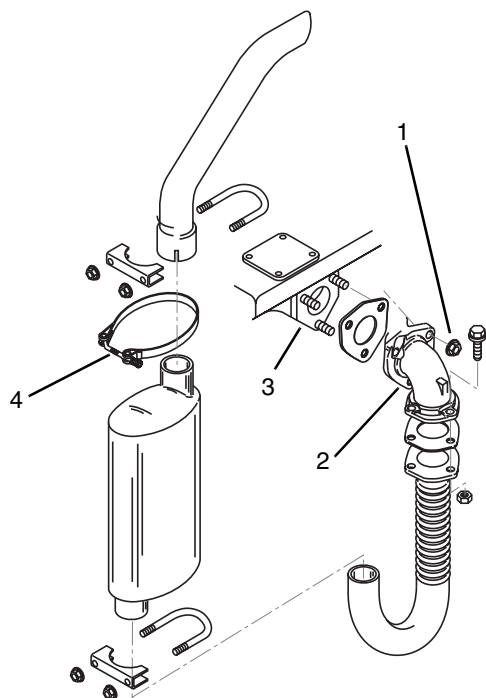

Figure 10-55 Exhaust System Removal
23. Remove hex locknuts (Fig. 10-55, 1) securing the exhaust elbow (2) to the engine exhaust manifold (3). Loosen the muffler body clamp (4), and lift and remove the muffler/tailpipe assembly with flexible exhaust pipe from the vehicle.